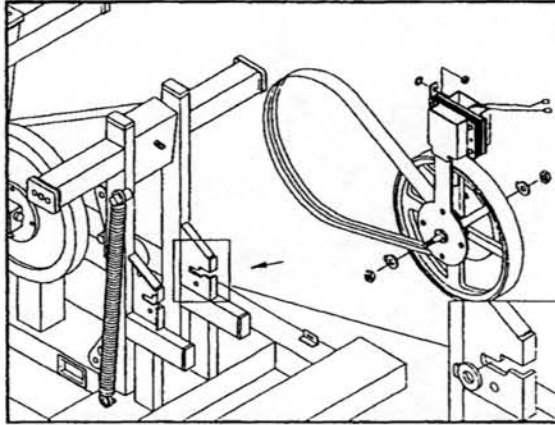

Fig.5-6
1. Place a new PULLEY WHEEL and install in the FRAME by securing the nuts (see fig 5-6).
Please note the assembly direction of the washers must be installed as the enlarged figure of fig 5-6.